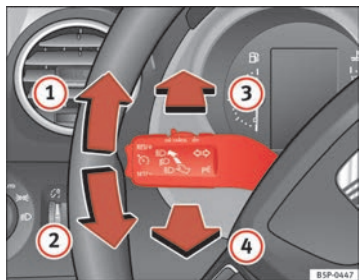

Fig. 78 Indicator and main beam lever
- Move the lever all the way up ⇒ fig. 78 ① to indicate **right**, and all the way down ② to indicate **left**.
- Press the lever forward ⇒ fig. 78 ③ to switch on the main beams.